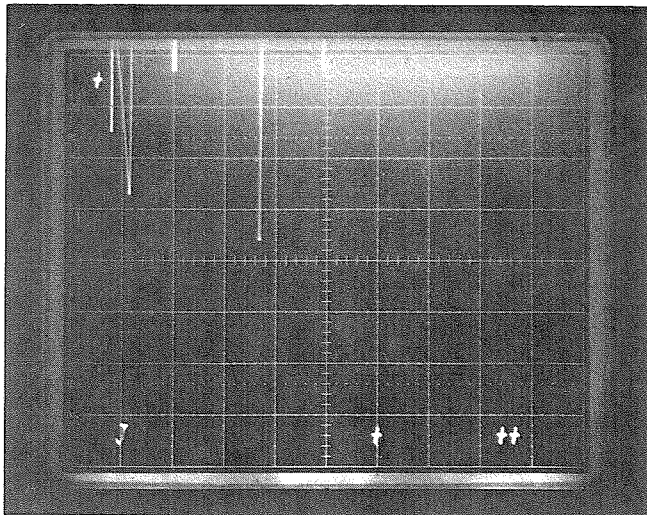

Fig. 12. Threshold of Data Bit dropping from Memory during adjustment of STROBE DELAY (R34).
14. Observing the DPO screen, adjust STROBE DELAY slowly clockwise until Data Bit dropping just starts to occur. Dropping appears as negative-going spikes (coming down from the top of the screen) or as random Readout symbols on the screen. Fig. 12 shows a typical display with dropping occurring. Holding in the BEAM FINDER button on the Display Unit brings the trace down into the viewing